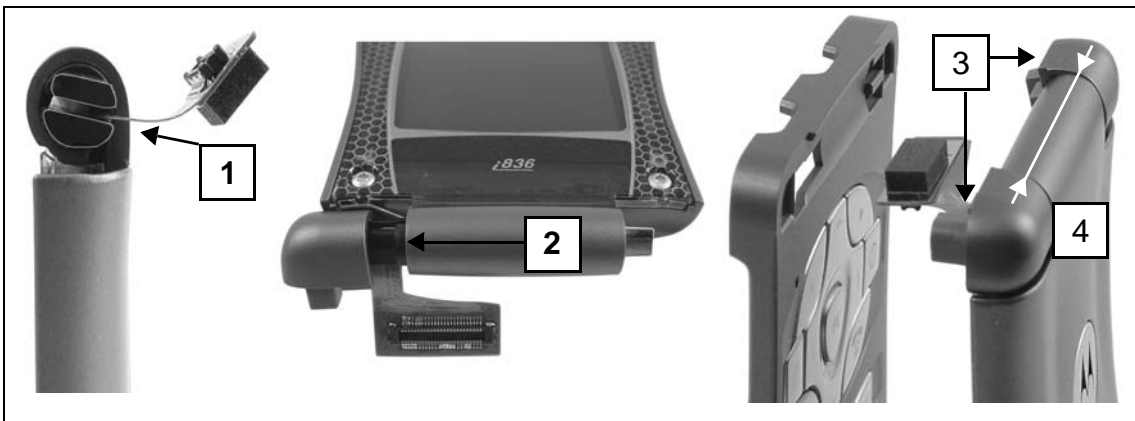

Figure 7-23
1. Ensure alignment of cam follower with flex strip (see Figure 7-23).